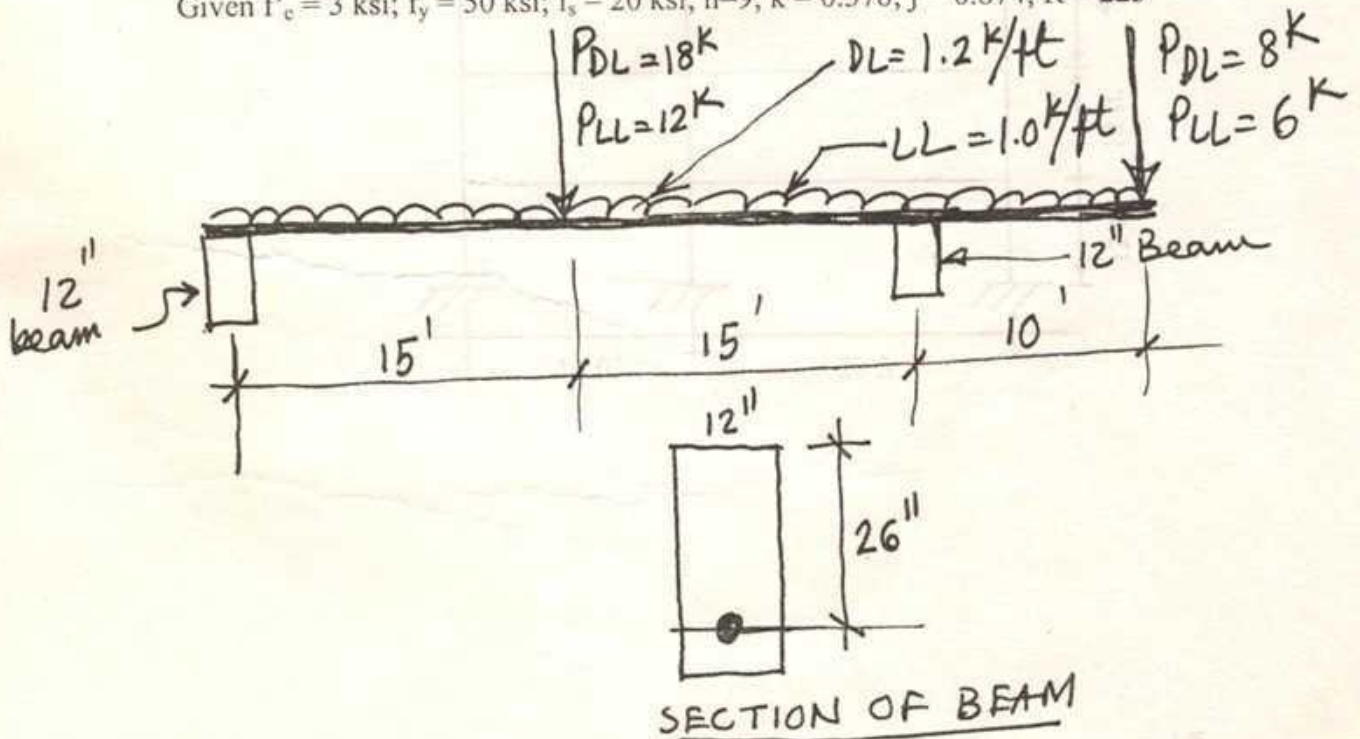

Fig. 7
12. For the beam and its cross section shown in Fig. 7 design the stirrups and make a neat sketch showing the stirrups. Use WSD. OR USD